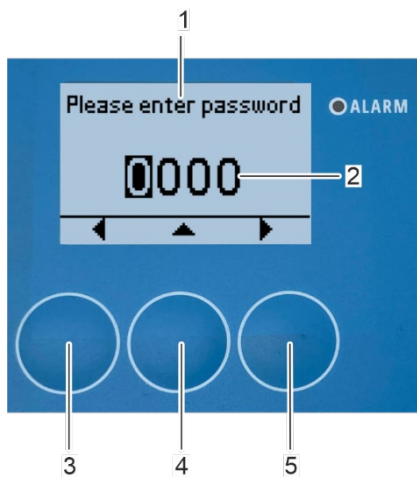

Fig. 122: Enter password
⇒ The display shows “Please enter password” (Fig. 122/1).
3. Enter the password (Fig. 122/2) by using the arrow keys [up] (Fig. 122/4), [left] (Fig. 122/3) and [right] (Fig. 122/5).
4. Use the arrow key [right] (Fig. 122/5) after you have selected the last password digit.